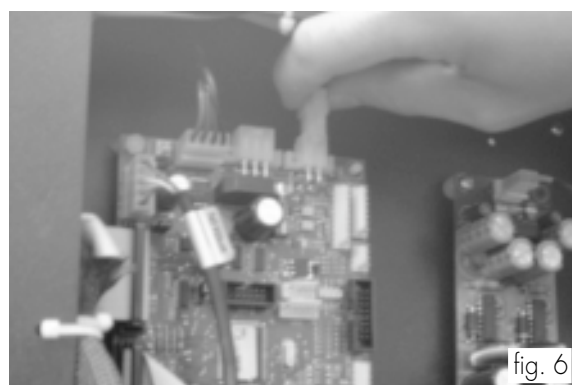

fig. 6
- Unplug the four-pin connector from the CPU card (fig. 6).